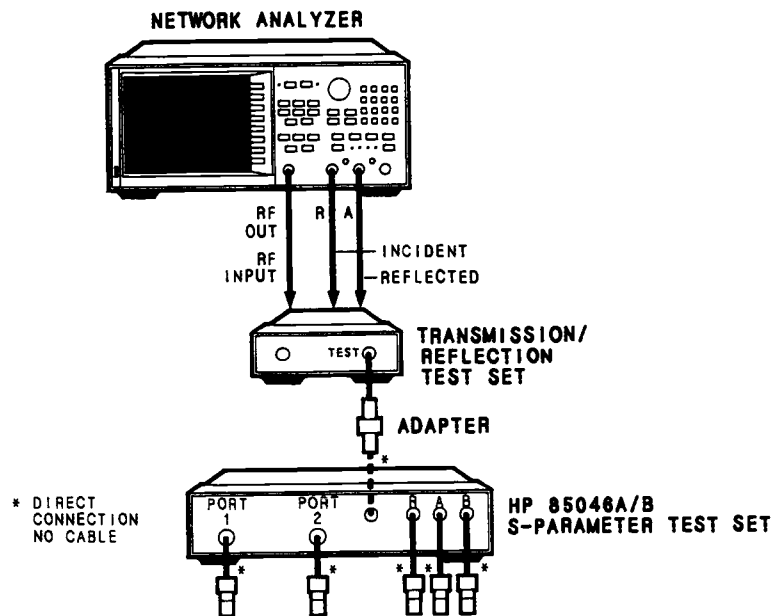

Figure 4-3. Port Match Test Setup
5. Connect a 50 Ω load on ports R, A and B of the HP 85046A/B as shown in Figure 4-3. In addition, to test the port match of the